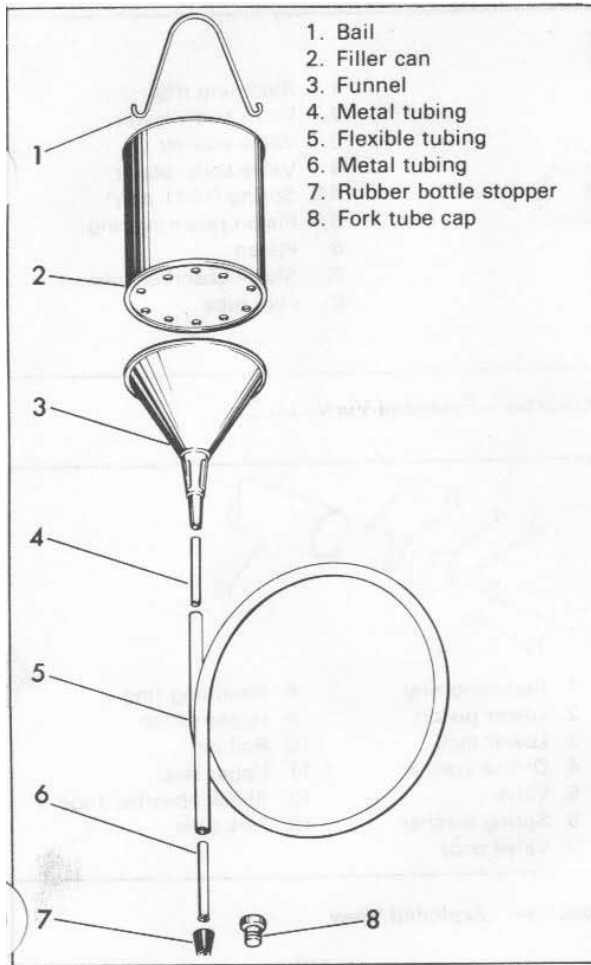

Figure 2-32. Fork Filler Can Components - Exploded View
1. To make a filler can, see Figure 2-32 and proceed as follows. Drill a dozen 1/4 in. holes in the bottom of a one quart tin can (2), near the outside edge. Then, shape the bottom of the can with a light hammer so that it is dished upward to assure complete draining of oil through the holes.